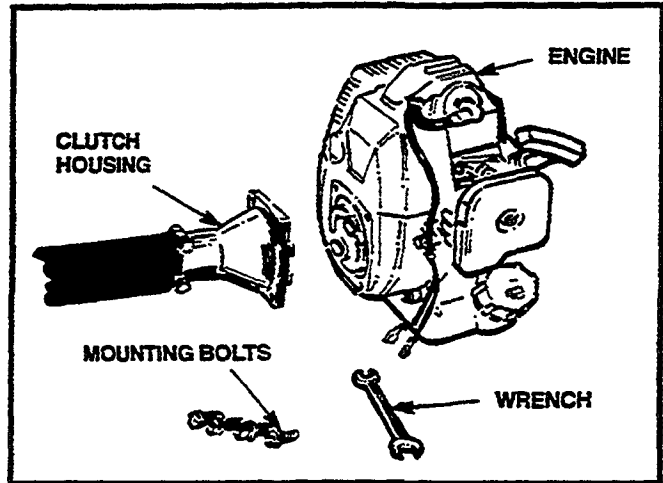

Figure 1
- Tighten the clamp screw securely with the hex key supplied (Figure 1).